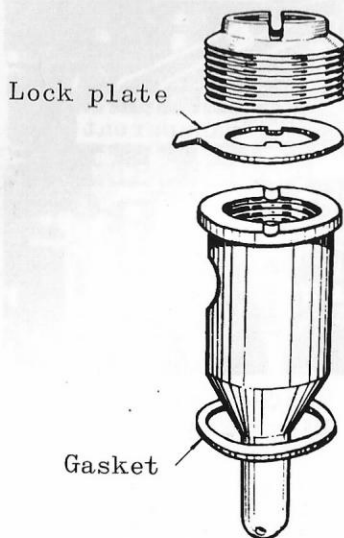

Fig. 4-56
- (1) The gasket should be put through the pre-combustion chamber after it is cleaned. With the glow plug mounting holes in the pre-combustion chamber held in register with those in the cylinder head, the pre-combustion chamber should be carefully mounted in place. (See Fig. 4-56)